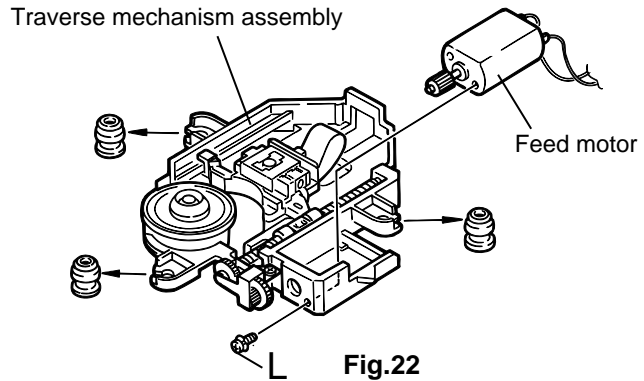

Fig.22
■ Removing the feed motor (See Fig.22)